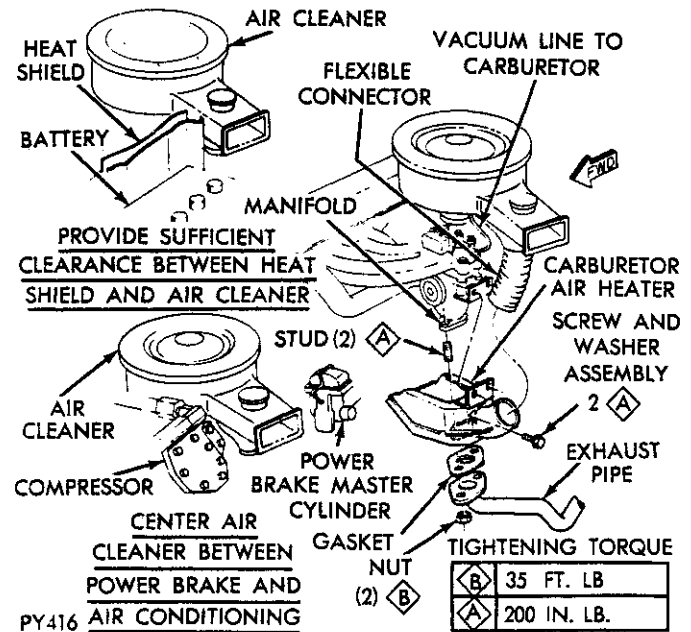

Fig. 6—Carburetor Air Heater, Six Cylinder Engines
- (1) Disconnect air cleaner vacuum line from carburetor and flexible connector between air cleaner and carburetor air heater (Fig. 6).
- (2) Disconnect breather cap to air cleaner line and remove air cleaner.
- (3) Disconnect exhaust pipe at exhaust manifold.
- (4) Remove two screw and washer assemblies attaching carburetor air heater to manifold and remove air heater.
- (5) Inspect air heater; replace if damaged.
- (1) Refer to Figure 6, install carburetor air heater
- (2) Attach exhaust pipe to manifold flange, using a new gasket. Tighten stud nuts to 35 foot-pounds.
- (3) Install air cleaner and connect air cleaner to breather cap line.
- (4) Install air cleaner to carburetor vacuum line and flexible connector between air cleaner and carburetor air heater. Position air cleaner to provide sufficient clearance between heat shield or air conditioning compressor and master brake cylinder if so equipped (Fig. 6).